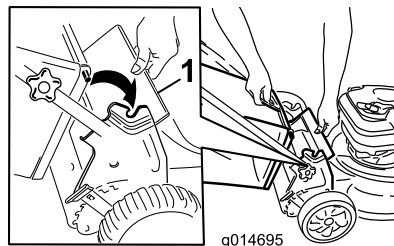

Figure 12
1. Lift up the rear deflector (Figure 12).
2. Insert the grass bag handle onto the notches on the handle brackets (Figure 12).